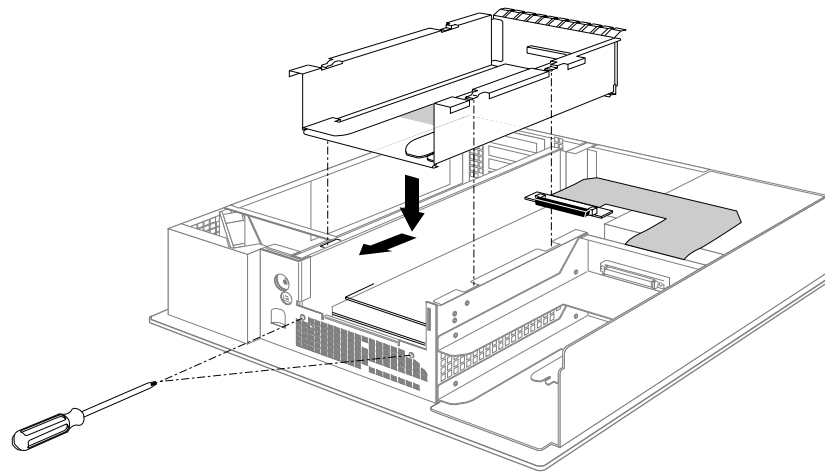

Figure 2-22 Reinstalling the 5-1/4 Inch Drive Tray
12. Install the 5-1/4 inch drive tray and attach the flat SCSI cable. When lowering the tray, keep it level, as shown in Figure 2-22, to avoid hitting the CPU module with a corner of the drive tray.